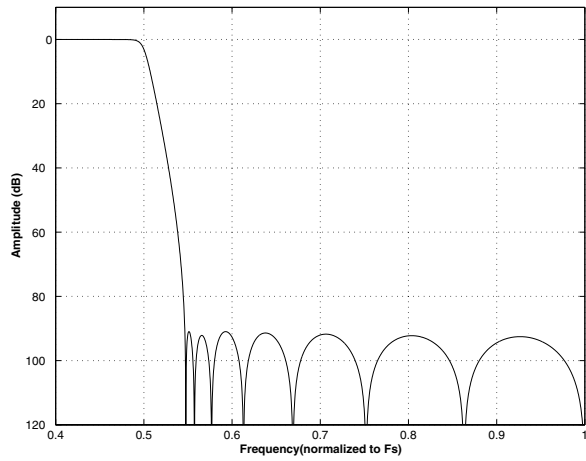

Figure 38. Single Speed (fast) Stopband Rejection
11. Response is clock dependent and will scale with Fs. Note that the response plots (Figures 38 to 61) have been normalized to Fs and can be de-normalized by multiplying the X-axis scale by Fs.